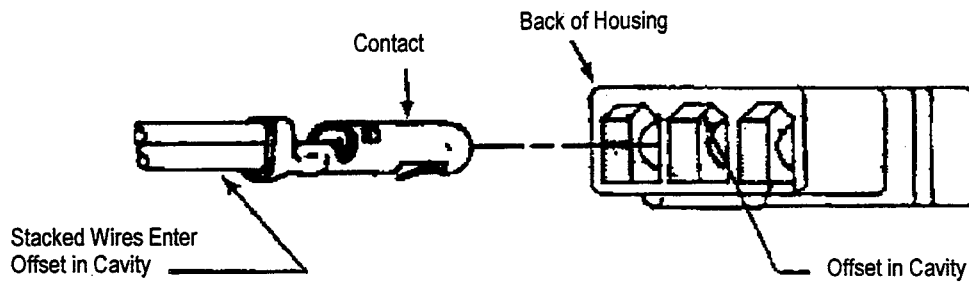

Figure 2
- b. For two-wire leads, first align contact with cavity as shown in Figure 2. Then push contact into housing and check to make sure it is properly inserted.